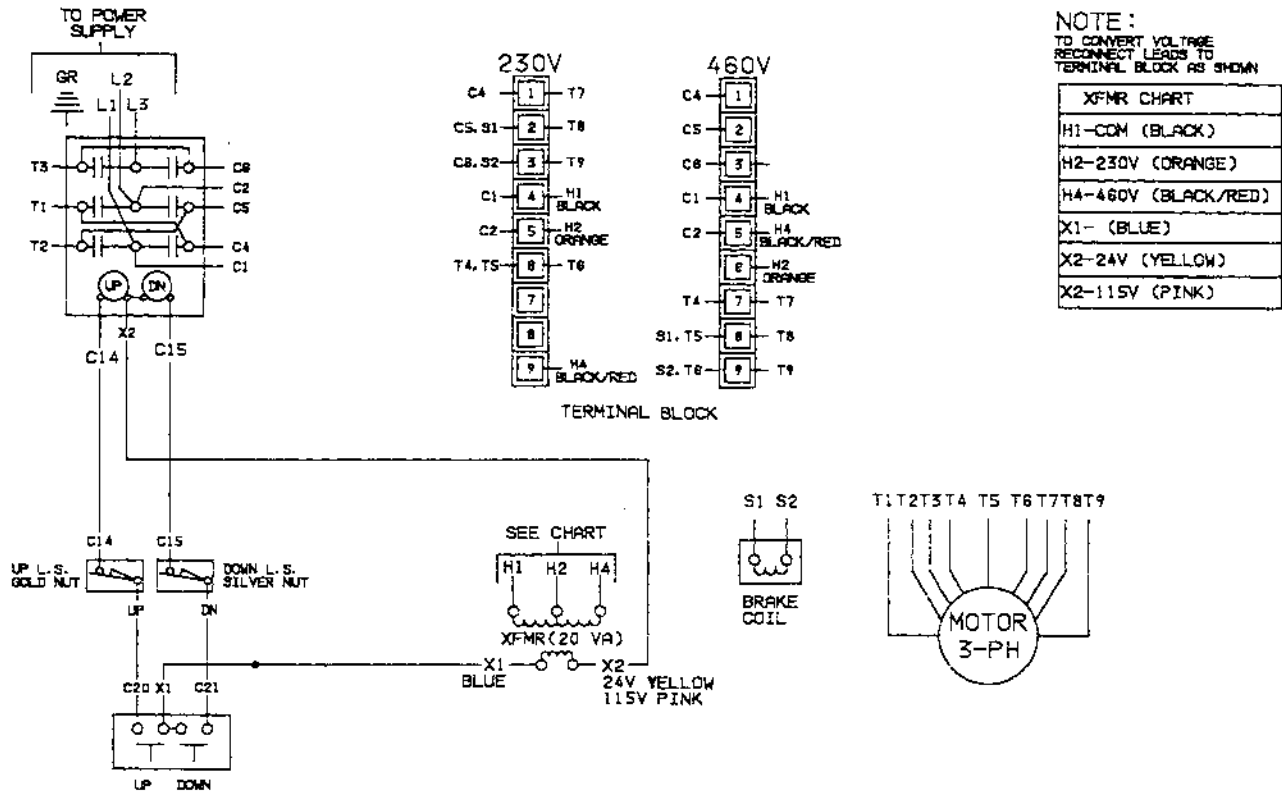

FIGURE 7-1. WIRING DIAGRAM
- b. To convert the hoist from 460 to 230 volts, reconnect leads T4, T5, T6, T7, T8, T9, H2, H3, S1, and S2 per the 230 volt connection diagram on Wiring Diagram, Figure 7-1.